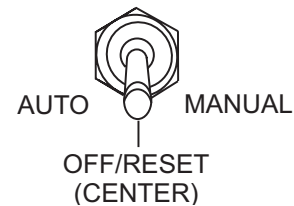

Figure 99. Auto Start/Stop Switch (Off/Reset Position)
8. Place the Auto Start/Stop switch (Figure 99) in the "Off/Reset" position.